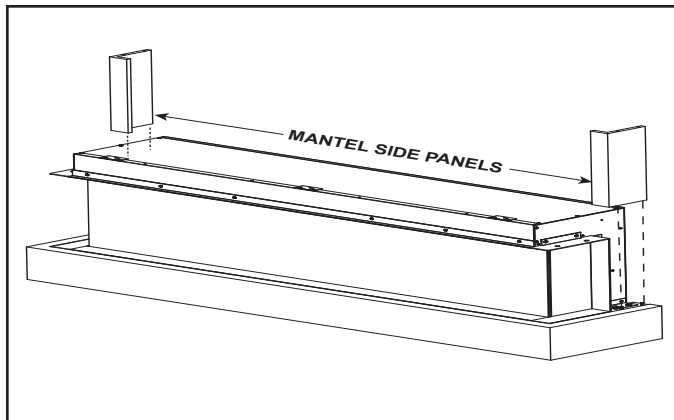

Figure 19
8. Attach the mantel side panels to the bottom mantel by aligning the holes in the mantel sides with the dowels. See Figure 19.